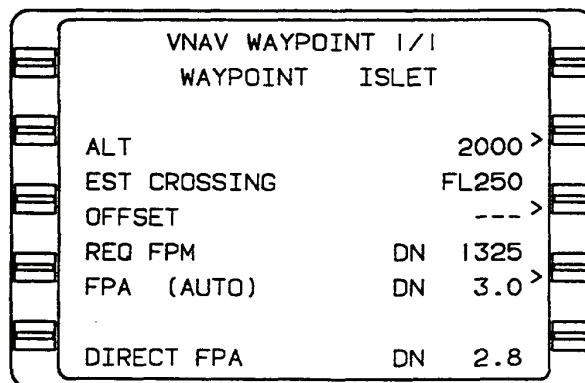

Figure 3A-37. VNAV Waypoint 1/1 Page
(5) **RANGE (NM)**. This field displays range to pre-selected altitude in nautical miles and tenths of a nautical mile.
i. **VNAV Waypoint 1/1 Page**. Refer to Figure 3A-37.